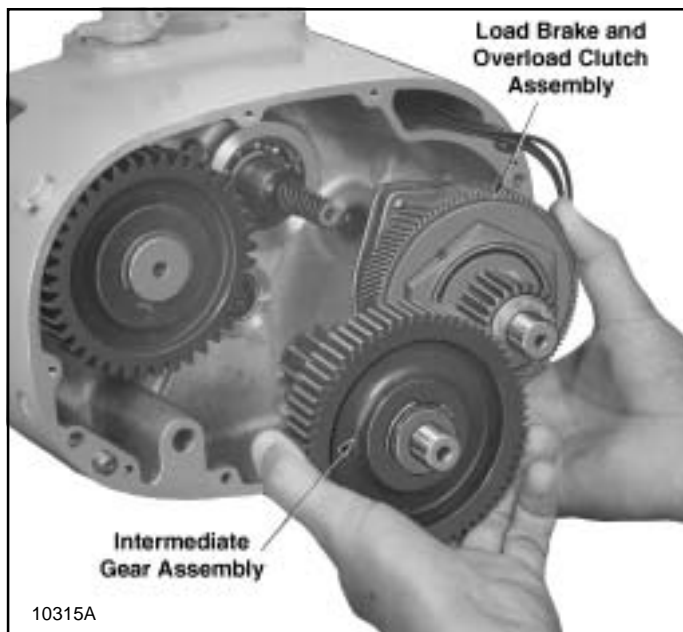

Figure 7-8. Removing Load Brake and Clutch and Intermediate Gear Subassemblies (1 thru 3 Ton Hoists)
(2) On 1 thru 3 ton hoists, pull load brake and clutch assembly and intermediate gear assembly, including the thrust washers for each unit, from hoist frame (fig. 7-8).